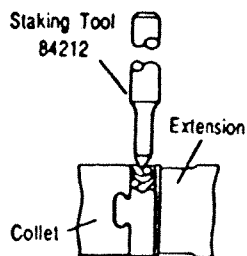
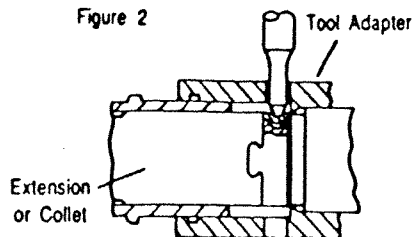

Figure 2
Figure 1
Remove parts of N/assem. for inspection and maintenance. If applicable, pressed-in anvil is pressed out with drift and arbor press; press new anvil in squarely to prevent cracking. When using extension, stake to tool's spindle/rod before assembling collet -- see Fig. 1; use only one shim. Use wrench to snug-up extension on spindle. Assemble parts as shown -- apply thin coat SUPER O-LUBE to O-rings and O D of sleeve and VIBRATITE to extension W/O lock collar. Use collet wrench to snug-up collet.
**6. Caution:** To prevent damage -- after proper adjustment has been made, collet lock collar must be staked. As applicable, see Fig. 1 and/or Fig. 2. For nose assemblies with sleeve and O-rings, jaw tension on fastener pintail is changed by adding or removing O-ring(s). Use collet wrench to snug-up. Loose lock collars or too many shims (see step 4, 353) may cause holder/anvil damage -- too few shims may cause jaw damage. Reuse lock collars until ineffective.